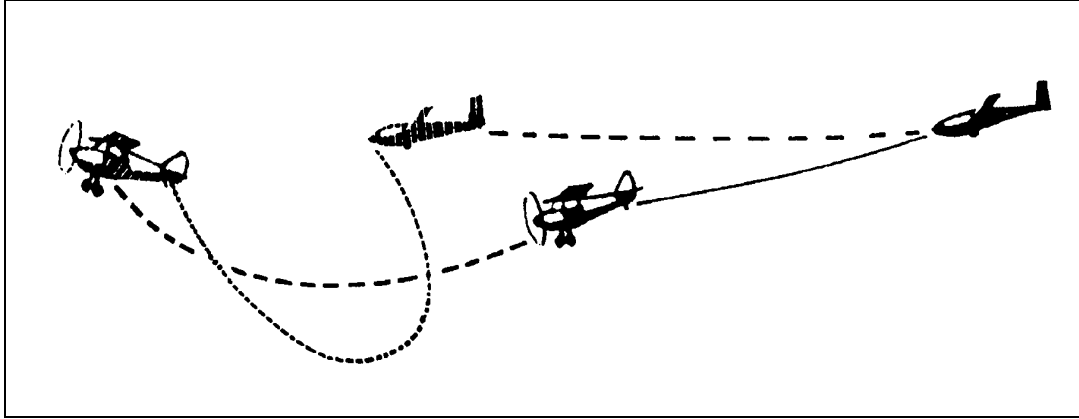

Figure 2-4-8 Possibility of Cable Break/Back Release
10. **Hazards.** The hazards of a slack tow rope include entanglement, an inadvertent back release, a rope break, or damage to the canopy from a released tow rope and ring. Excessive slack is particularly hazardous due to the possibility of entanglement with weaker structures of the glider. Excessive slack combined with light back release tension can also produce an unexpected release at low altitude or during a cross-country tow. Rope breaks commonly occur when slack in the tow rope is followed by acceleration of the tow aircraft (Figure 2-4-8).